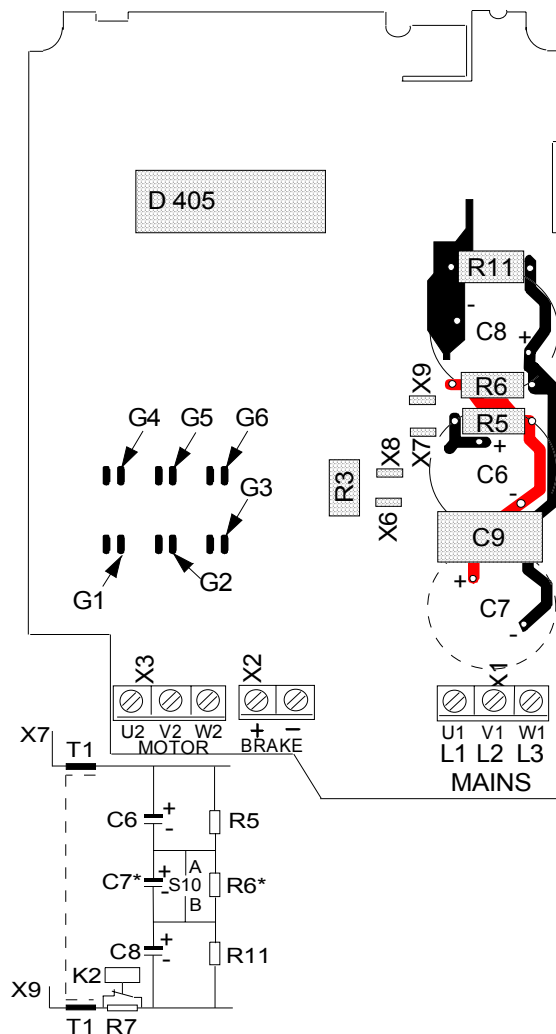

Figure 10-2. Motor Control Card
Example: Connect the + wire to the U2 pole of terminal X3 and the - wire to the + pole of terminal X2. The reading should be approx. 0.4 V. Refer to Figure 10-2 for measuring points.
**Note!** If terminal X2 is marked R+ and R-, measure + and - from the DC link capacitors (see Figure 10-2).